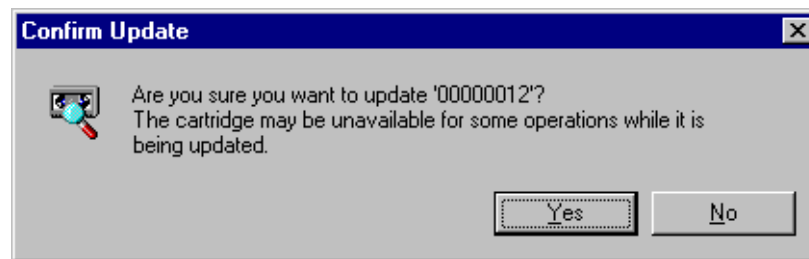

Figure 63. Confirm Update dialog box
2. On the **File** menu, or from the shortcut menu with a right-click, click **Update**. Since the update takes several minutes to complete, you are asked to confirm the operation, as shown in Figure 63.